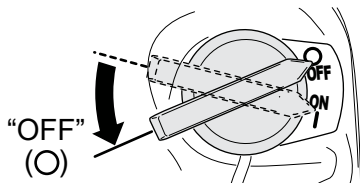

Figure 24. Engine Switch (OFF)
2. Turn the engine switch to the OFF position (Figure 24).